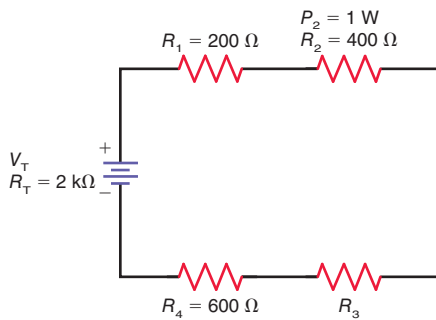

Figure 5-35
5.29 In Fig. 5-35, solve for R_3 , I , V_T , and P_T .